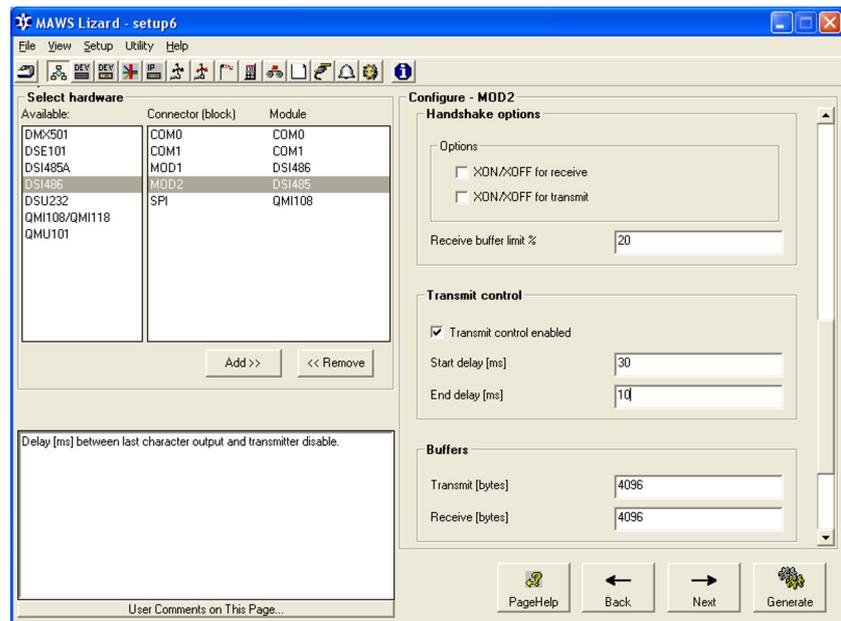

Figure 19 Optional Hardware View: Configuring Communication Port for Nokeval 7470 (2/2)
4. In the **Transmit control** frame, select **Transmit control enabled** and set the timing as follows in the editable text boxes (see Figure 19 on page 55):